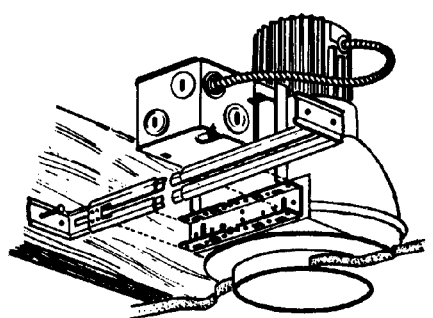

FIGURE 5
3. To install fixture, position other "C" bracket over bar hanger in ceiling. (Figure 5 & 6)
8. Finish Ceiling: Wet or dry type ceiling with trim ring. Wet plaster finish only for trimless. (Figure 5 & 6)